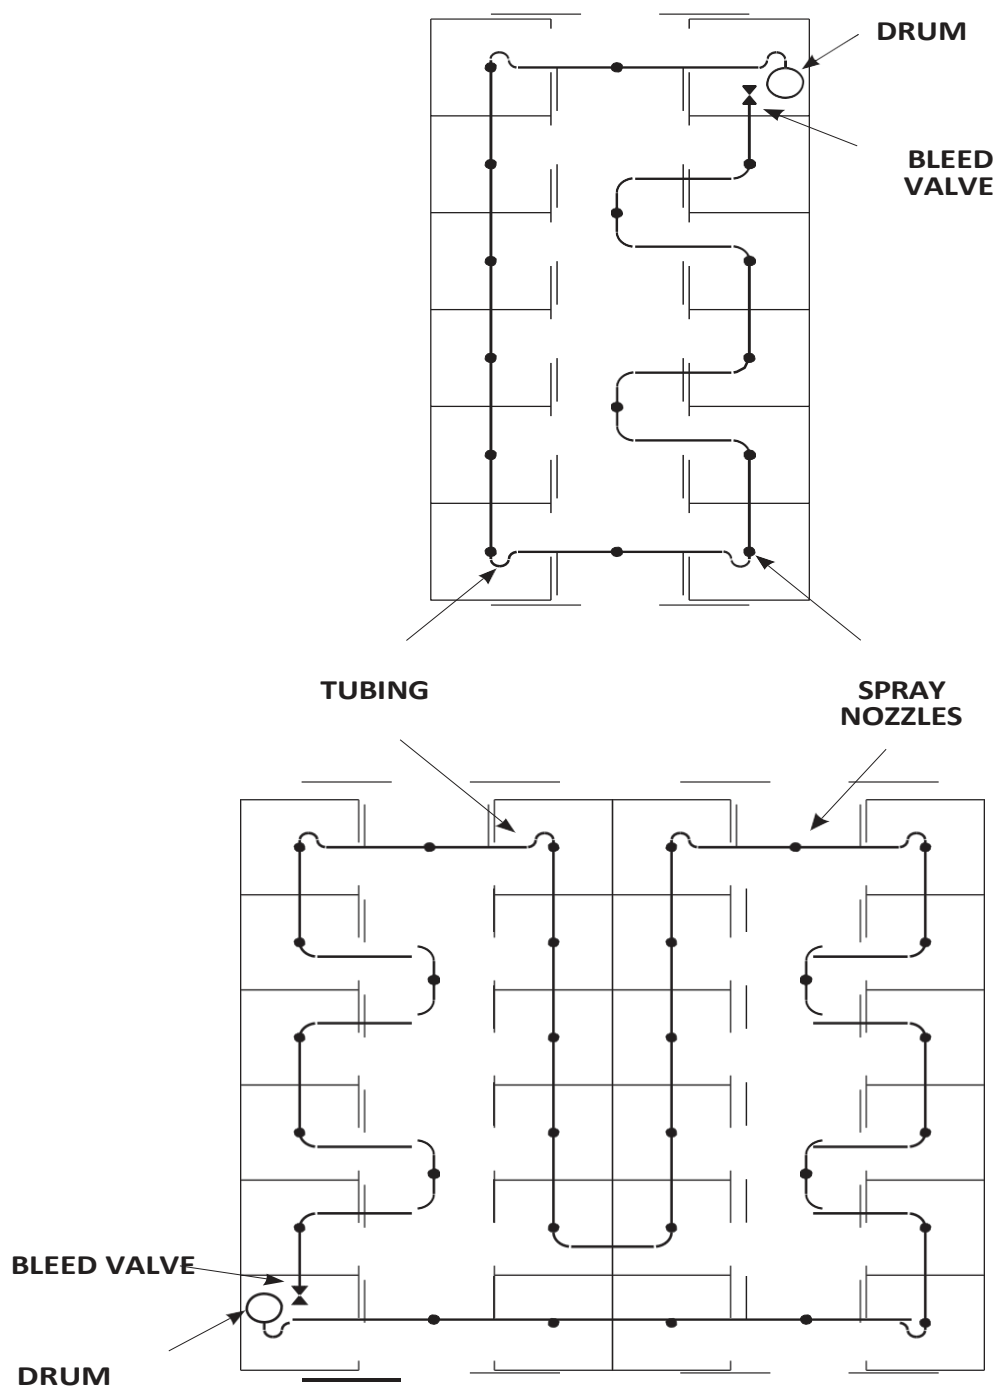

Figure 4 – Sample Barn Diagrams
1. Remove the spray nozzles from package. Using the barn diagrams as a guide (figure 4), run the $\frac{1}{4}$ inch nylon tubing on the ground around the stall area to be treated, beginning at the tank.